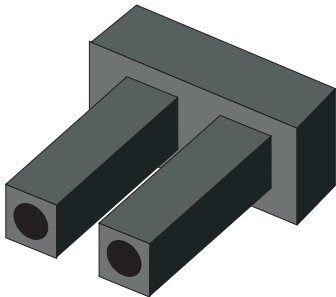

Figure 1-11: Fiber-Optic Protective Plug
- **Fiber-optic protective plug**-For safety and port transceiver protection, fiber-optic protective plugs must be inserted in all Director ports without fiber-optic cables attached. The Director is shipped with protective plugs installed in all ports. A protective plug is shown in Figure 1-11.